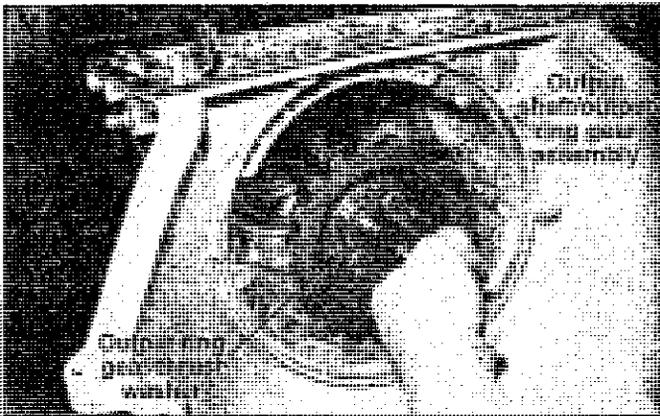
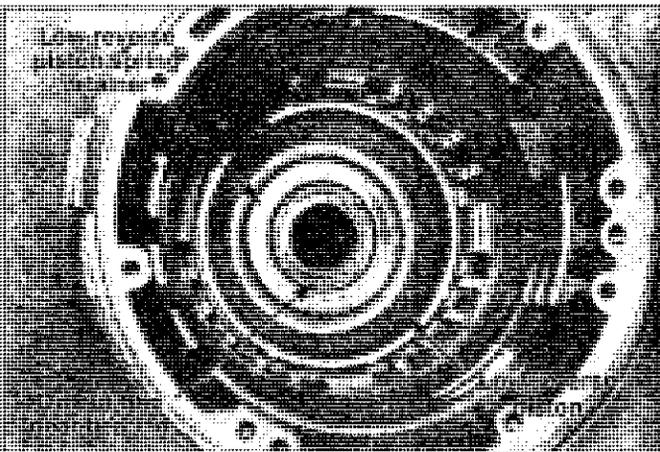

FIGURE 18
FIGURE 19
STEP 25. Grasp the output shaft and remove the output shaft/output ring gear assembly. (See Fig. 18) It is not necessary to remove the output ring gear from the output shaft unless the shaft or gear need to be replaced.
STEP 26. Remove the three-tab output ring gear thrust washer. (See Fig. 18) It may be stuck to the back side of the reaction planet carrier. Set the washer in the oil pan. Set the shaft assembly aside. Remove the output ring gear bearing if it did not come out with the ring gear. (See Fig. 19) Set it in the oil pan.